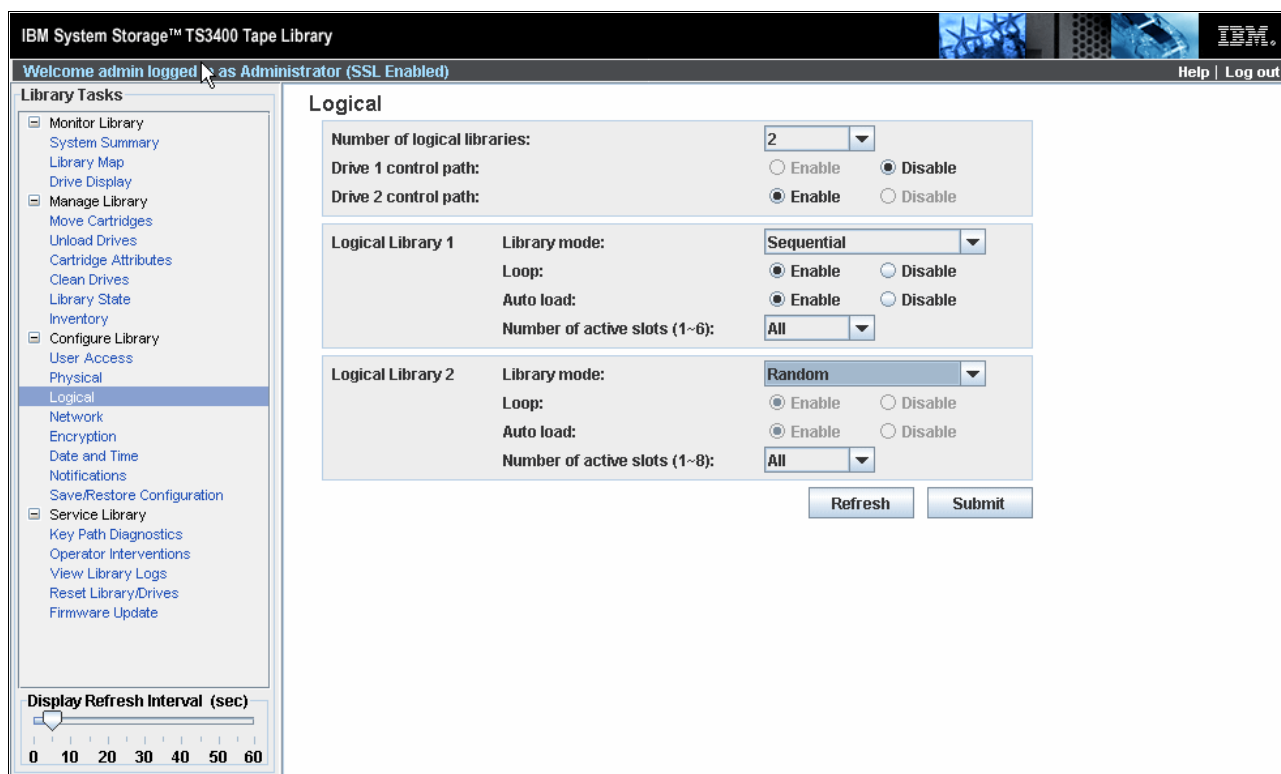

Figure 11-23 Partitioning the TS3400
1. From the Welcome page, choose **Logical** as shown in Figure 11-23. We changed the settings for Partition 1 and Partition 2. Notice that Partition 1 has the control path disabled. When Sequential mode is enabled, the control path is automatically disabled. This make sense, because it is the library that takes care of loading and unloading the cartridges in the drive.
Figure 11-23 shows the first step of configuring the TS3400.